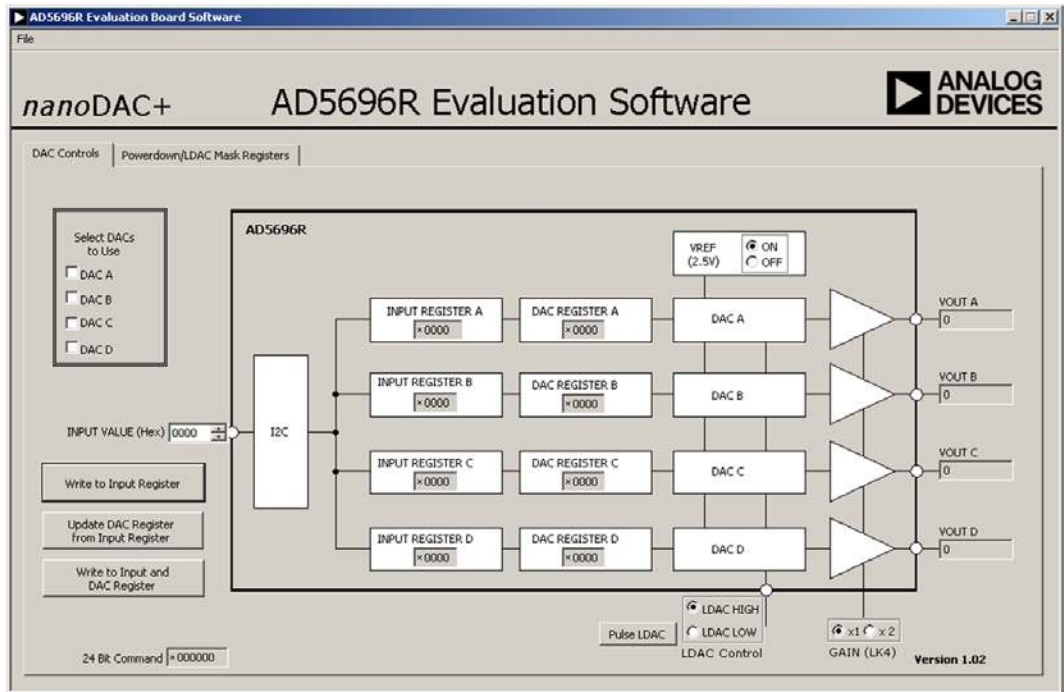

Figure 4. AD569x(R) Evaluation Board Software Main Window
Alternatively, the software can be used without an evaluation board. The software runs in simulation mode displaying expected outputs based on the input data. The main window of the AD569x(R) evaluation software then opens, as shown in Figure 4.